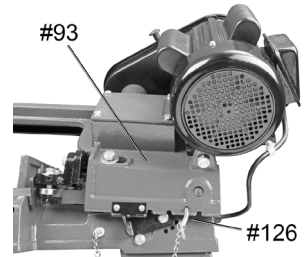

Fig. 26
1. Raise the Body Frame to its full vertical position. Turn the Support Plate (#127) clockwise until it firmly locks into the Body Frame and insert the Locking Pin to lock the Body Frame in position (Fig. 26).
1. Position the Body Frame (#93) in the horizontal position (Fig. 26).